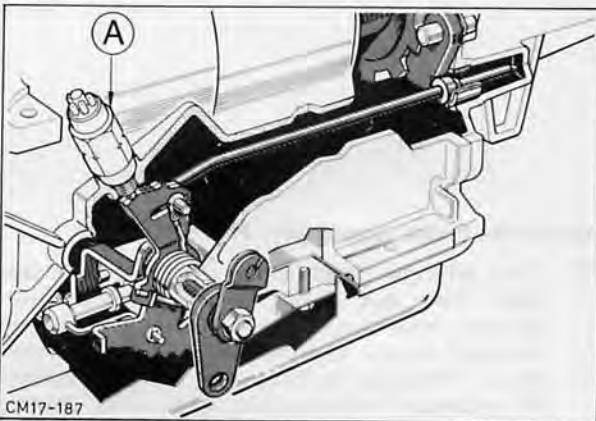

Fig. 85. Interlock and parking pawl mechanism
- Unscrew starter inhibitor switch and remove O-ring, Fig. 85. Remove downshift cable bracket.